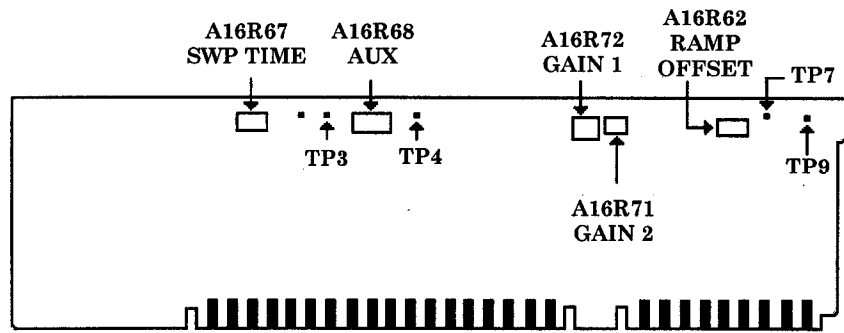
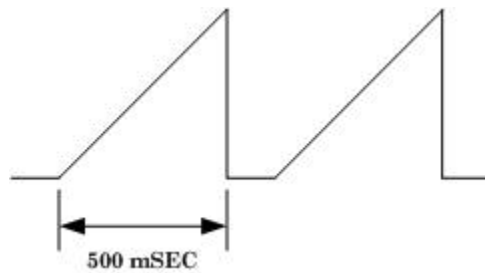
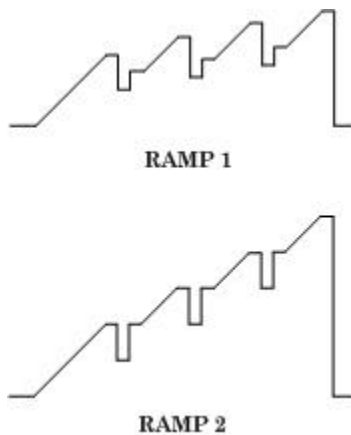
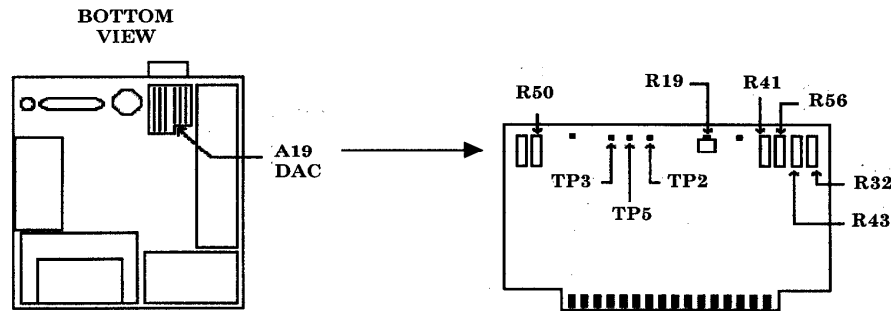

Figure 3. A16 board.
Figure 4. 500 mSec ramp.
Figure 5. Ramps.
Figure 6. A19 board.
- (1) Disconnect TI **RF INPUT** from synthesized signal generator No. 1 **RF Output**.
- (2) Set TI **LINE** switch to **STANDBY**.
- (3) Position TI on its right side.
- (4) Remove TI bottom cover.
- (5) Remove cover over A12 through A16 pc boards.
- (6) Jumper A12TP2 to A12TP3 (lock indicator disable).
- (7) Set TI **LINE** switch to **ON**.
- (8) Press **0 – 2.5 GHz, SWEEP TIME, 500, mS**.
- (9) Connect oscilloscope **Vertical 1** input to TI A16TP3 (fig. 3).
- (10) Connect TI **SWEEP + TUNE OUT** (rear panel) to oscilloscope **Vertical 2** input.
- (11) Set oscilloscope to display a 0 to 10 volt sweep ramp using **Vertical 2** as the trigger source.
- (12) Adjust A16R67 SWP TIME for a ramp of 500 msec (fig. 4) duration (R).
- (13) Disconnect oscilloscope from A16TP3 (fig. 3).
- (14) Connect oscilloscope to A16TP4 (fig. 3). Display should be similar to figure 4.
- (15) Adjust A16R68 AUX (fig. 3) to align the dc level of the rest time between each ramp with the upper dc level of each ramp. Refer to RAMP 2 (fig. 5).
- (16) Disconnect oscilloscope from A16TP4 (fig. 3).
- (17) Connect multimeter **HI** to A16TP9 and **LO** to A16TP7 (fig. 3).
- (18) Press TI **SWEEP SINGLE** key.
- (19) Adjust A16R62 RAMP OFFSET (fig. 3) for a multimeter indication as close to 0.000 V dc as possible.
- (20) Repeat steps (18) and (19) until requirement is met.
- (21) Press TI keys as listed in (a) through (g) below:
- (22) Connect multimeter **HI** to A19TP2 and **LO** to A19TP3 (fig. 6).
- (23) Press TI **RECALL, 1**.
- (24) Press TI **RECALL, 2**.
- (25) Repeat (23) and (24) above while monitoring multimeter.
- (26) The difference in multimeter indications for **RECALL, 1** and **RECALL, 2** should be < 1 mV dc. Multimeter indications will be approximately -8 V dc.
- (27) If necessary, adjust A19R19 (fig. 6) while alternating between **RECALL, 1** and **RECALL, 2** so that the difference in multimeter indications is < 1 mV dc (R).
- (28) Press TI keys as listed in (a) and (b) below:
- (29) Press TI **RECALL, 1** keys.
- (30) Press TI **RECALL, 3** keys.